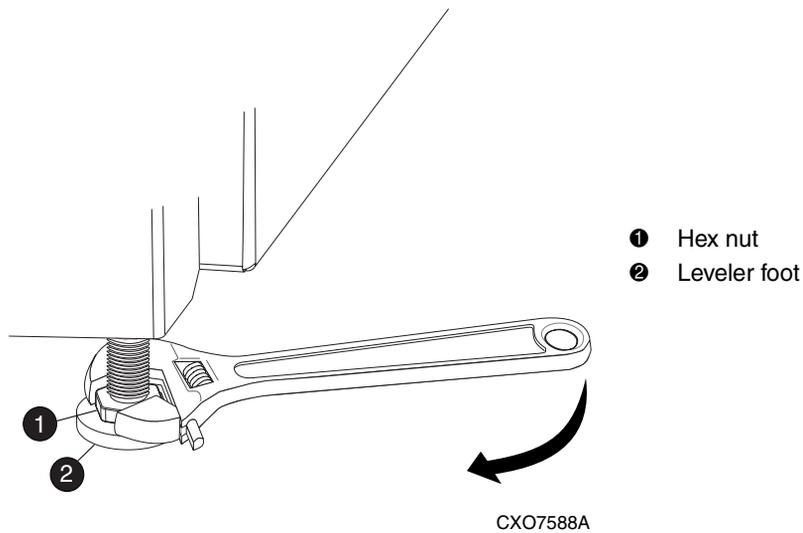

Figure 5-5: Lowering a leveler foot
1. Use a wrench to lower a foot until the caster does not touch the floor (see Figure 5-5).